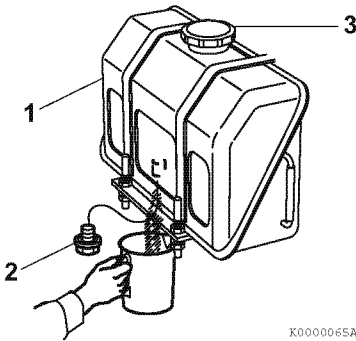

Figure 5-6
1. Position an approved container under the diesel fuel tank (**Figure 5-6, (1)**) to collect the contaminants.
2. Remove the fuel cap (**Figure 5-6, (3)**).
3. Remove the drain plug (**Figure 5-6, (2)**) of the fuel tank to drain the contaminants (water, dirt, etc.) from the bottom of the tank.